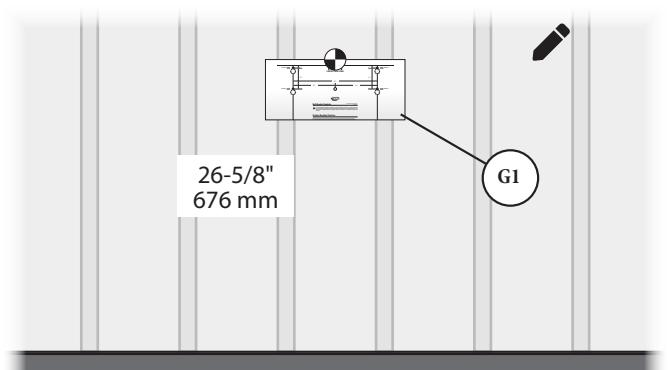

FIG. 4
- 4** Mark a straight level line 26-5/8" from the ground. Align the top of the Template (G1) with the marked line [FIG. 4] and temporarily secure the Template (G1) to the wall with a tack or non-marking tape.